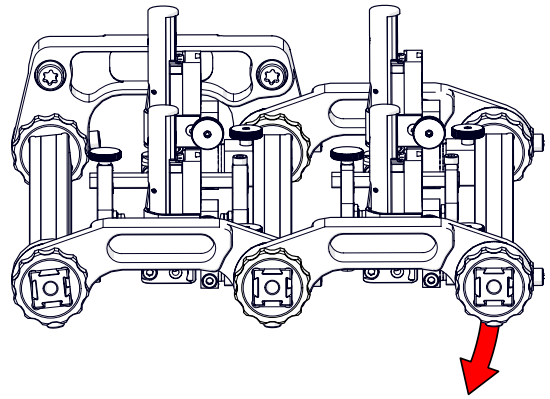

Fig. 137 - Pivot frame to required angle
2. Pivot the frame to the desired angle (Fig. 137).